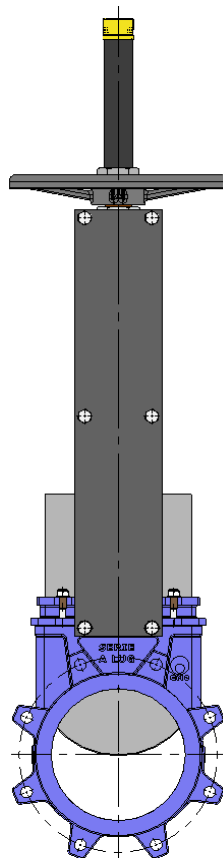

fig. 15
**3 - Extension: Extended Support Plates (fig. 15)**